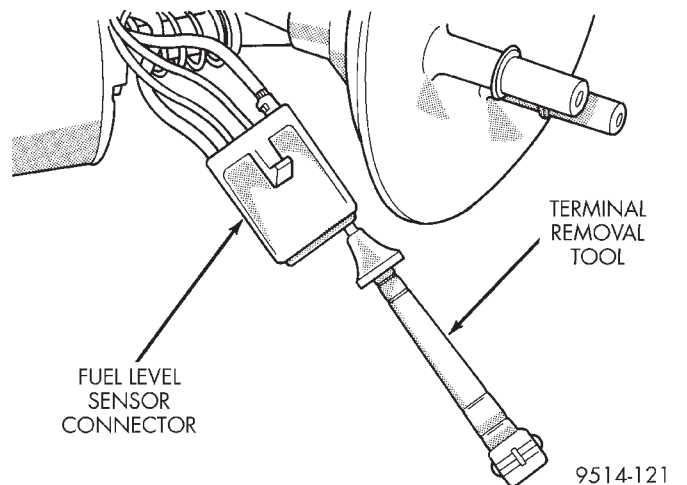

Fig. 22 Terminal Removal Tool
- (2) Using Special Tool C-4334 terminal remover or equivalent, remove terminals from level sensor connector (Fig. 22).